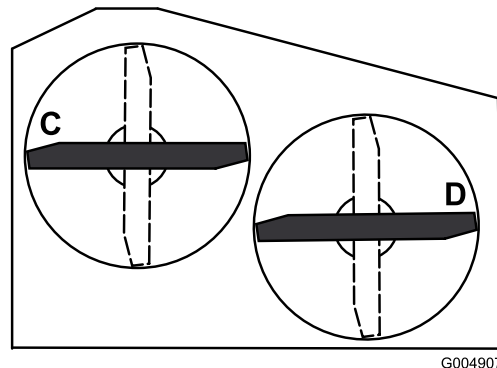

Figure 58
2. Position the blades side-to-side. Measure at **C** and **D** locations from a level surface to the cutting edge of blade tips (Figure 58).